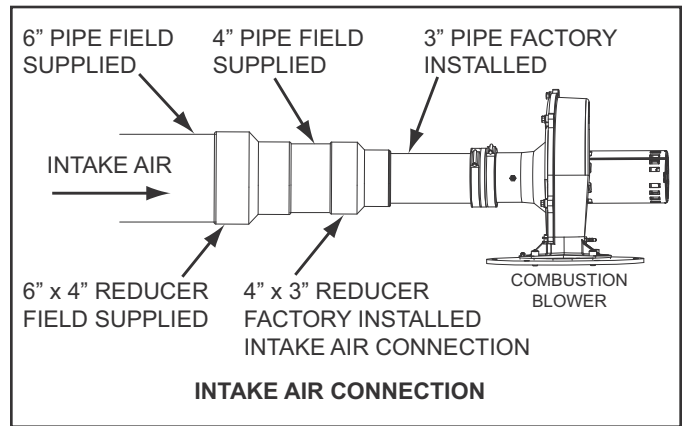

Figure 18
- If installing 6" intake air pipe transition to 4" pipe at the intake air connection on the water heater as shown in Figure 18. The field installed 4" pipe between the intake air connection and the 6" x 4" reducer coupling should be 18 inches (45 cm) or less in length.